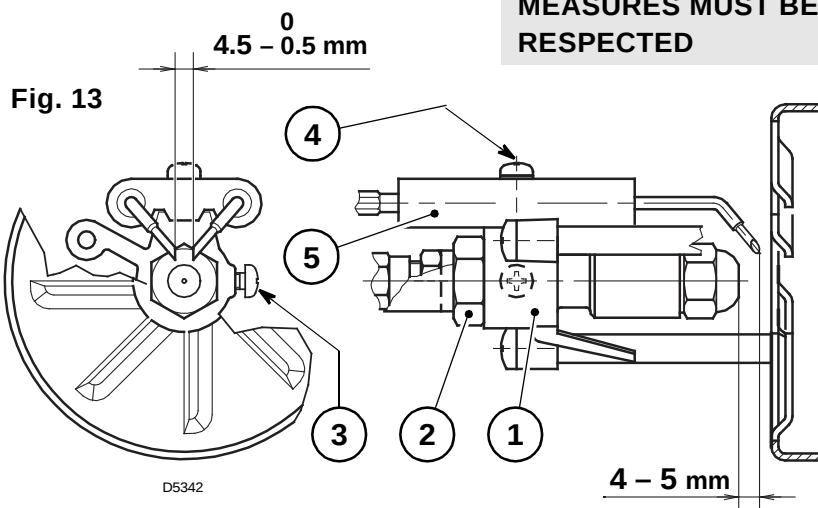

Fig. 13
- Hook the burner to the flange (1), by removing the blast tube (2) after loosing the fixing screws (3).
- Remove the small cables (4) from the electrodes and the diffuser disc-holder assembly (5) from the nozzle-holder assembly after loosing its fixing screw (3, fig. 13, page 7).
- Screw the nozzle (6) correctly and tighten it as shown in the figure.
- In the long head version the socket wrench (7) should lock the extension part that carries the nozzle.
- Remove nozzle-holder assembly (1) after loosening screws (2) and nut (3), remove the small cables (4) from the control box and the photoresistance (5).
- Withdraw the small cables (4) from the electrodes, remove the diffuser disc-holder assembly (8) from the nozzle-holder assembly (1) after loosening screw (3, fig. 13).
- **Screw the nozzle (9) correctly and tighten it as shown in figure.**
- **In the long head version the socket wrench (10) should lock the extension part that carries the nozzle.**
- In the sketch the combustion head is set for an output of 1.50 GPH at 15 bar. The set-point 3 of the regulating rod (7) is at the same level with the outside plane of the nozzle-holder assembly (1) as shown in the schedule.
4.4 ELECTRODES ADJUSTMENT (see fig. 13)
- Replace the nozzle (see fig. 12, page 7) and check the correct position of electrodes (fig. 13, page 7).